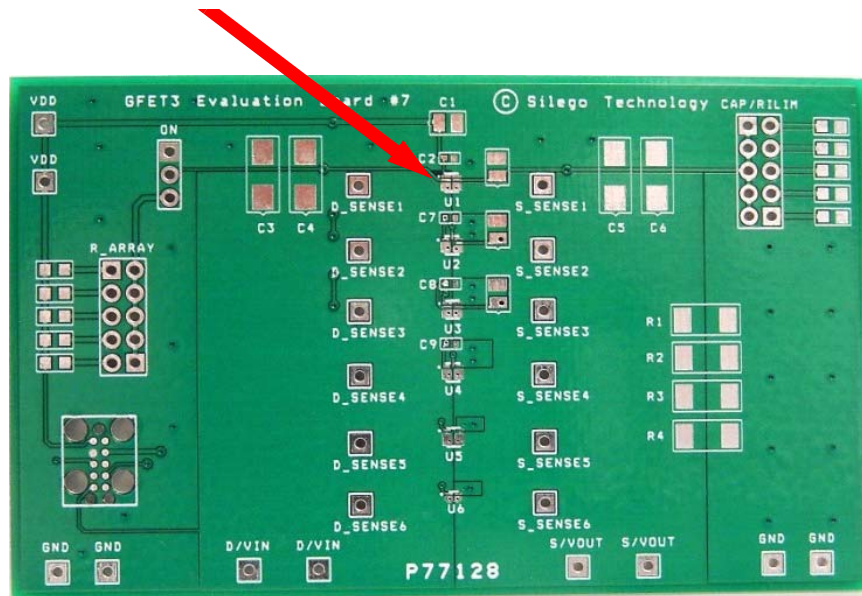

Figure 1. SLG7NT402V Evaluation Board.
2. Since the D/VIN and S/VOUT pins dissipate most of the heat generated during high-load current operation, it is highly recommended to make power traces as short, direct, and wide as possible. A good practice is to make power traces with an absolute minimum widths of 15 mils (0.381 mm) per Ampere. A representative layout, shown in Figure 1, illustrates proper techniques for heat to transfer as efficiently as possible out of the device;
A GFET3 Evaluation Board for SLG7NT402V is designed according to the statements above and is illustrated on Figure 1. Please note that evaluation board has D_Sense and S_Sense pads. They cannot carry high currents and dedicated only for RDS_{ON} evaluation.